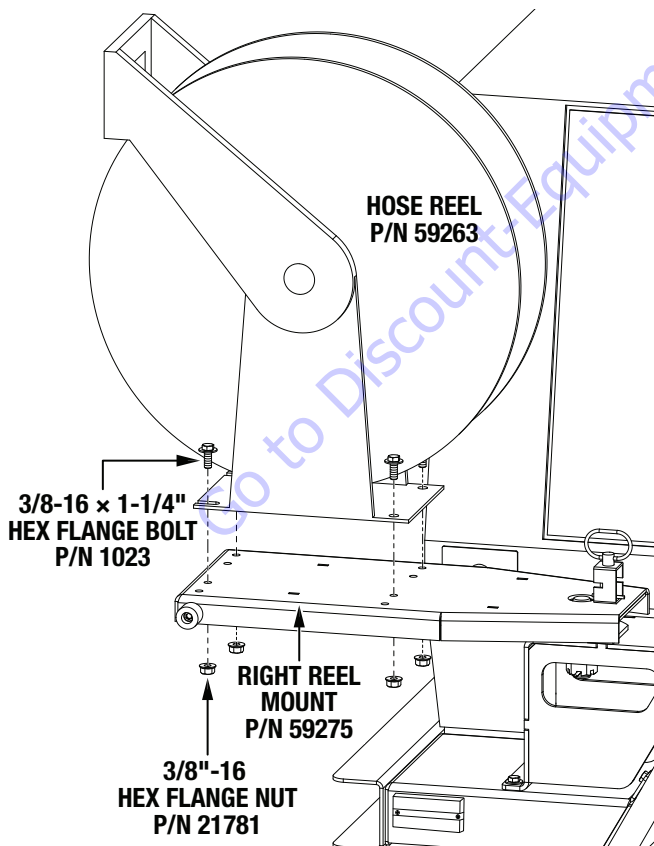

Figure 27. Hose Reel Installation
- Secure the hose reel (P/N 59263) to the right reel mount (P/N 59275) with four 3/8-16 x 1-1/4" hex flange bolts (P/N 1023) and four 3/8"-16 hex flange nuts (P/N 21781). See Figure 27.